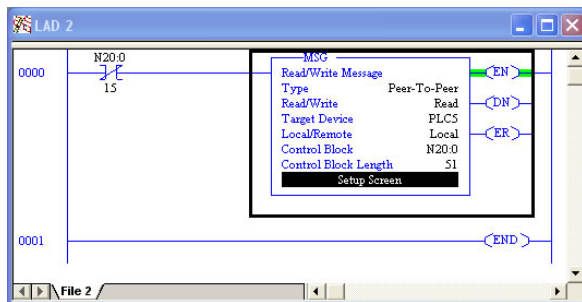

Figure 123: Completed PLC Program
7) The program is now complete. Refer to Figure 123.